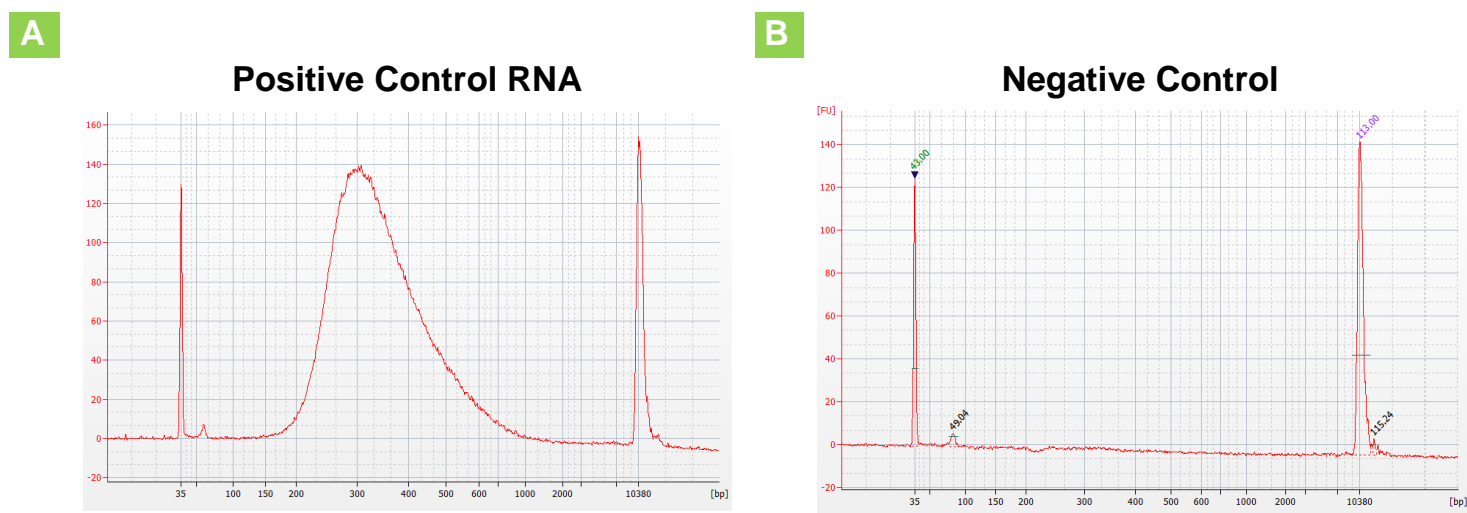

Figure 3. Electropherogram example results from Agilent 2100 Bioanalyzer.
3. Compare the results for your samples and controls (if performed) to determine whether the sample is suitable for further processing. Successful cDNA synthesis and amplification should yield no product in the negative control (Figure 3, Panel B), and a distinct peak spanning 150–1,000 bp, peaked at ~300 bp for the positive control RNA sample (Figure 3, Panel A), yielding >7.5 nM RNA-seq library (depending on the input and number of cycles).